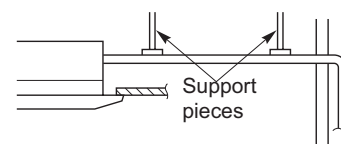

Fig. 2-138
- Do not apply force to the piping on the unit side when connecting the drain pipe. The pipe should not be allowed to hang unsupported from its connection to the unit. Fasten the pipe to a wall, frame, or other support as close to the unit as possible. (Fig. 2-138)